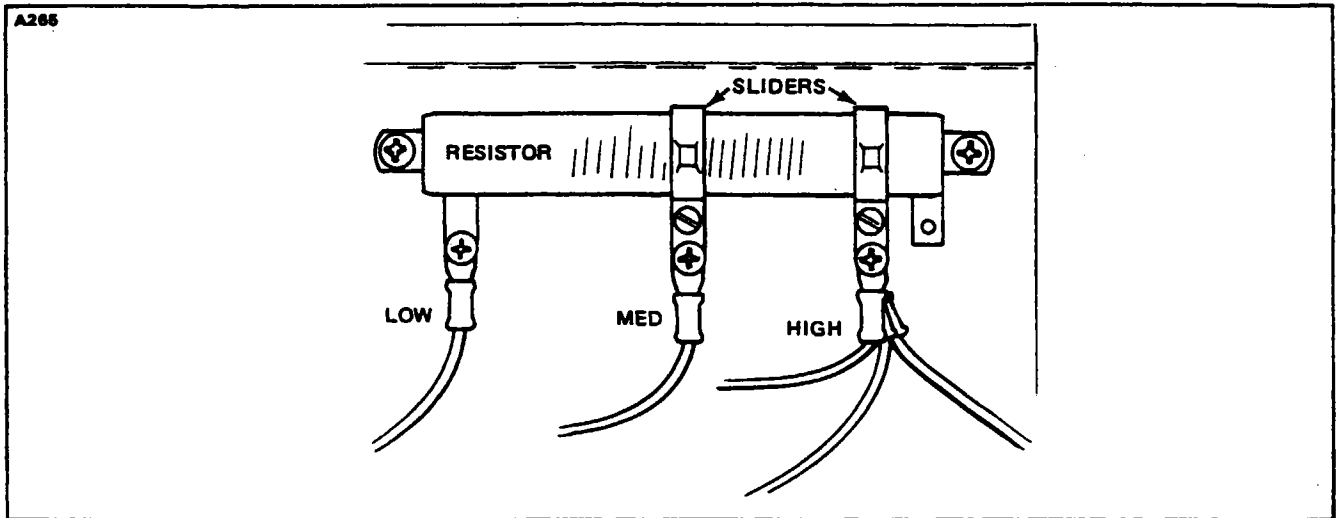

Figure 9-6. Slider Resistor Terminal, Right or Left (Looking Aft)
- d. Connect the negative lead from an external DC power source to ground on the aircraft and the positive lead to the slider resistor high position. (Refer to Figure 9-6.)
- g. Connect the positive lead from the external power source to the slider resistor low position. (Refer to Figure 9-6.) Adjust the power supply voltage level to the same voltage obtained in Step e.